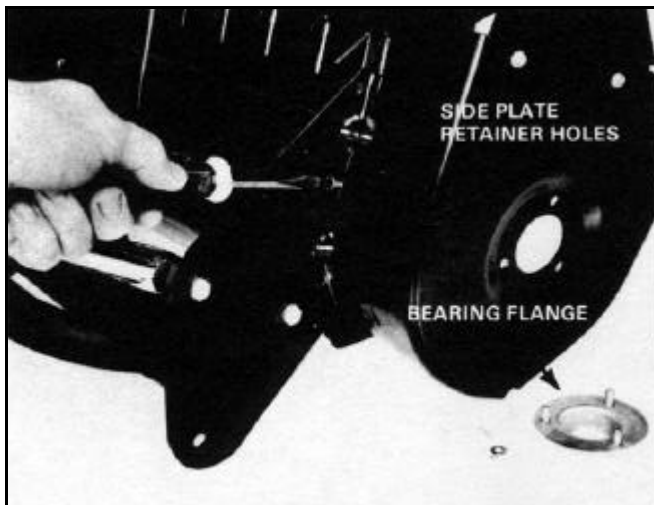

Figure 126
6. If the shaft must be completely removed from the housing, remove the three screws retaining the right hand side plate to the rotor housing (Figure 126). Flex the side plate and withdraw the complete shaft, bearing flange, and thrust washer.